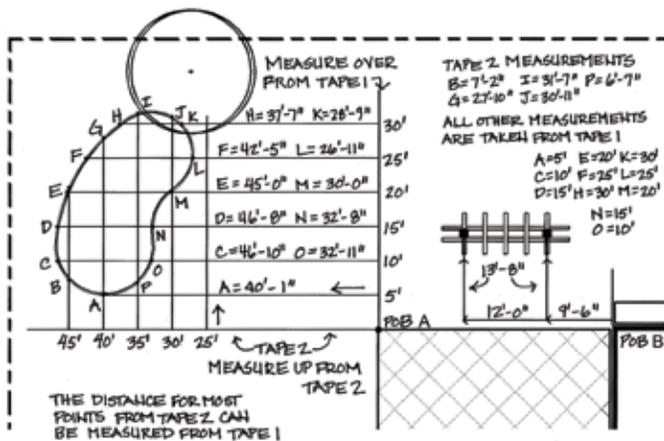

FIGURE 7. Grid measurement of odd-shaped area (Credit: Gail Hansen)
Grid measurements are used to locate large, odd-shaped areas on the ground plane, such as a plant bed or a curvilinear swimming pool (Figure 7). To create a grid, you need two tapes to be most accurate. Steps to creating the grid are as follows:
- Label each point on your base sheet and record the distance, as shown in Figure 7.
Figure 7 also shows the use of the grid method to locate two posts on a trellis by pulling a tape from the corner of the house (POB B) and then pulling tapes at right angles from the edge of the patio. Although the triangulation method may be easier in the field, the grid method is easier to redraw on the scale base map if you don't have a compass.